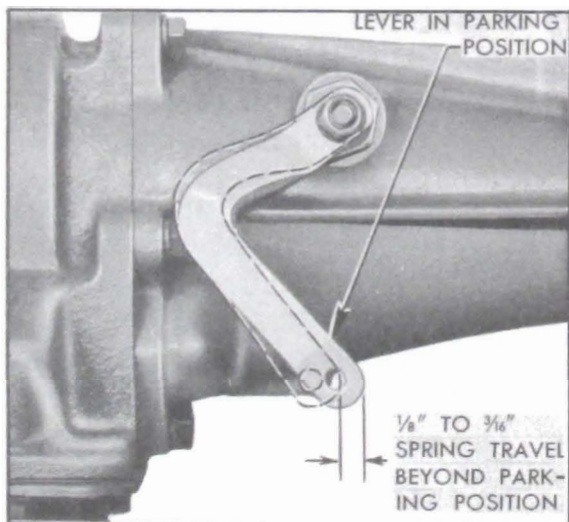

Figure 4-10—Spring Travel at Shift Lever
4. Check movement at lower end of transmission shift lever by pushing forward against spring pressure until a definite stop is felt. The spring travel or movement of lower end of lever should be  $\frac{1}{8}$ " to  $\frac{3}{16}$ " beyond the Parking (P) position. See figure 4-10. If spring travel is not within these limits the control valve operating rod in transmission must be adjusted.